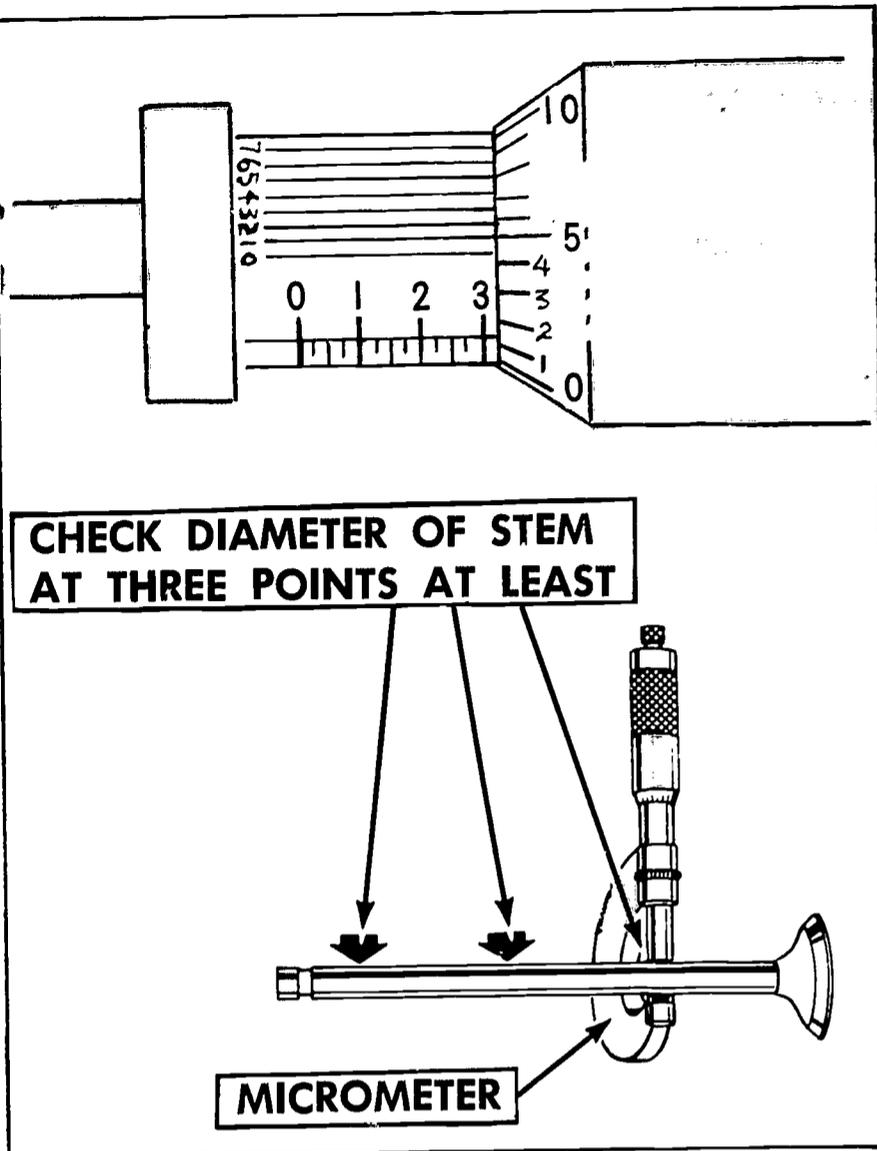

FIGURE 198. Checking the valve-stem diameter with a micrometer.
2. *Check condition of valve stem (Figure 198).*